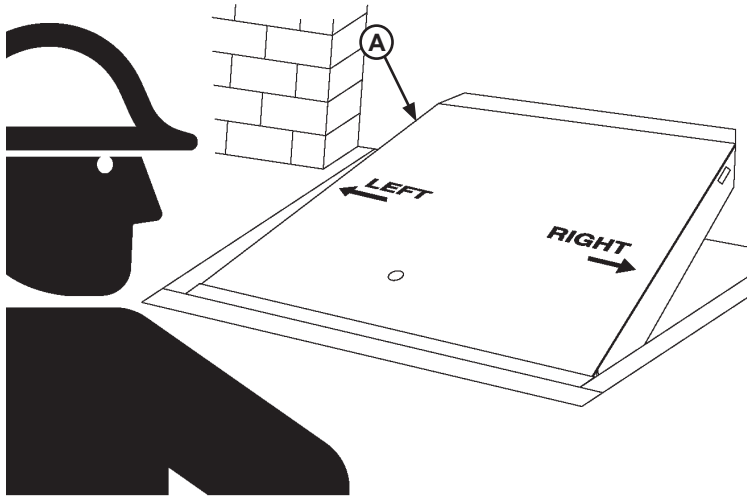
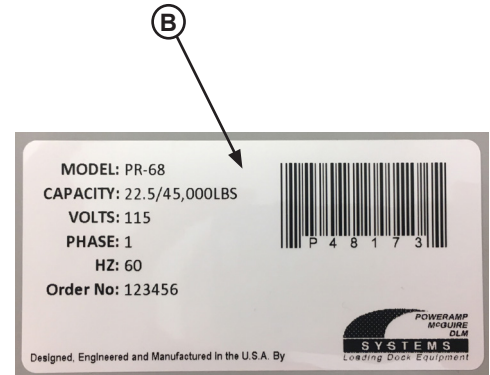

Figure 27
Figure 28
**NOTE:** Refer to Figure 27 for left/right orientation of dock leveler and Figure 28 for example of decal.